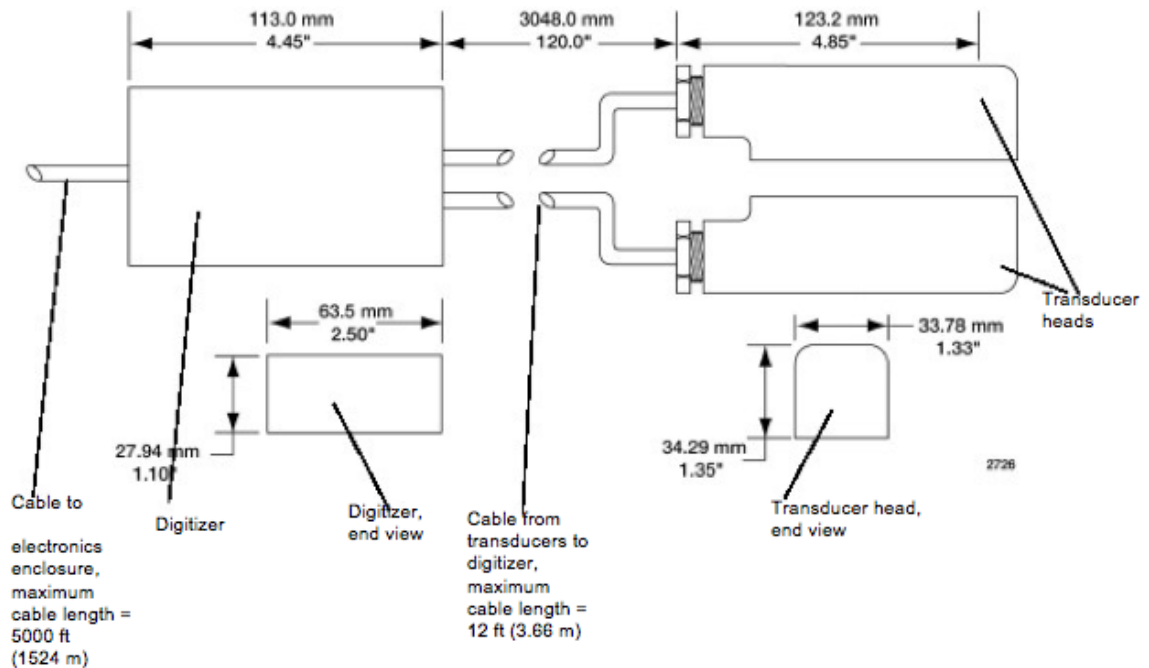

Figure 4-3. Dimensions of clamp-on Doppler
Dimensions	• Transducer heads: 4.85"(L) x 1.33"(W) x 1.35"(D) (123 mm x 33.8 mm x 34.3 mm) Note: See Figure 4-3 on page 4-8 for the dimensional illustration